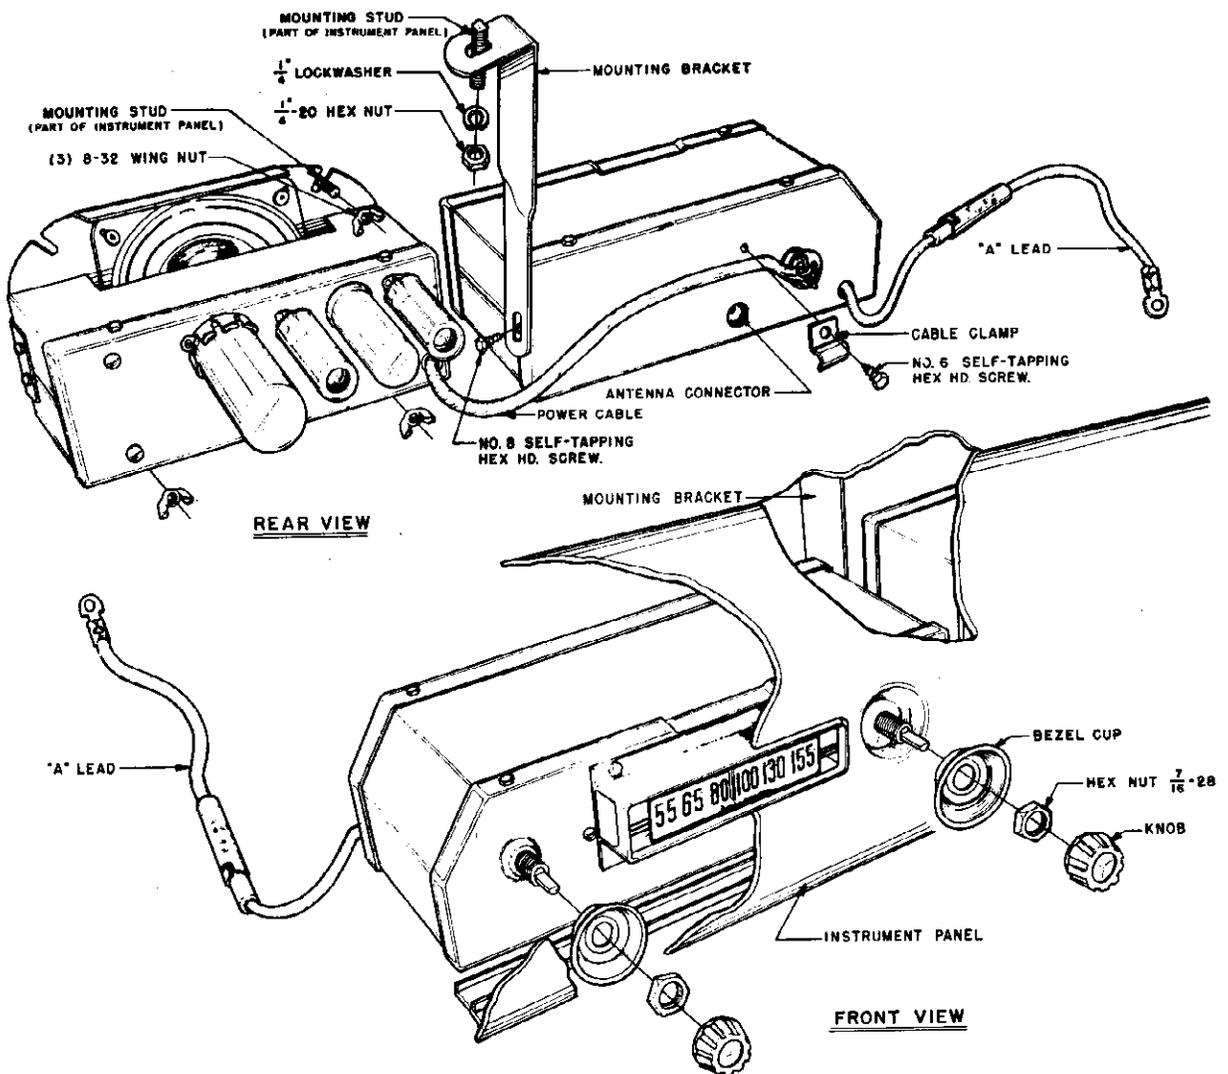

Fig. 2 DETAIL ASSEMBLY
9. Secure mounting bracket to side of tuning unit with hex head No. 8 self tapping screw, as shown in Fig. 2
10. Place speaker and power pack unit over three threaded stud bolts behind the instrument panel. (Position power pack unit so that power cable is located near the tuning unit.) See Fig. 2.
(See detail assembly drawing FIG. 2)